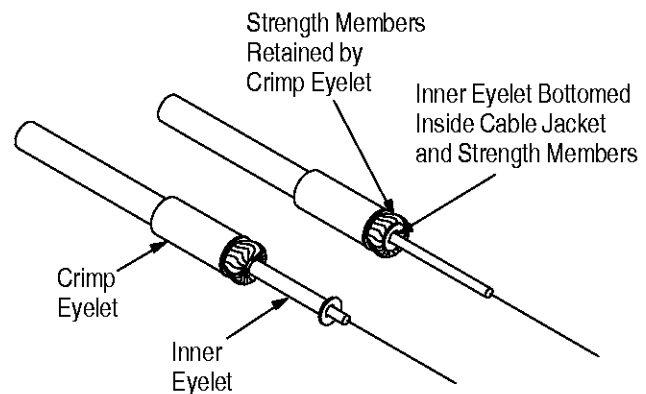

Figure 4
5. Slide the crimp eyelet onto the buffer. Using the eyelet, push the strength members to one side of the cable jacket. Fold back the strength members and retain them with the crimp eyelet. Refer to Figure 4.